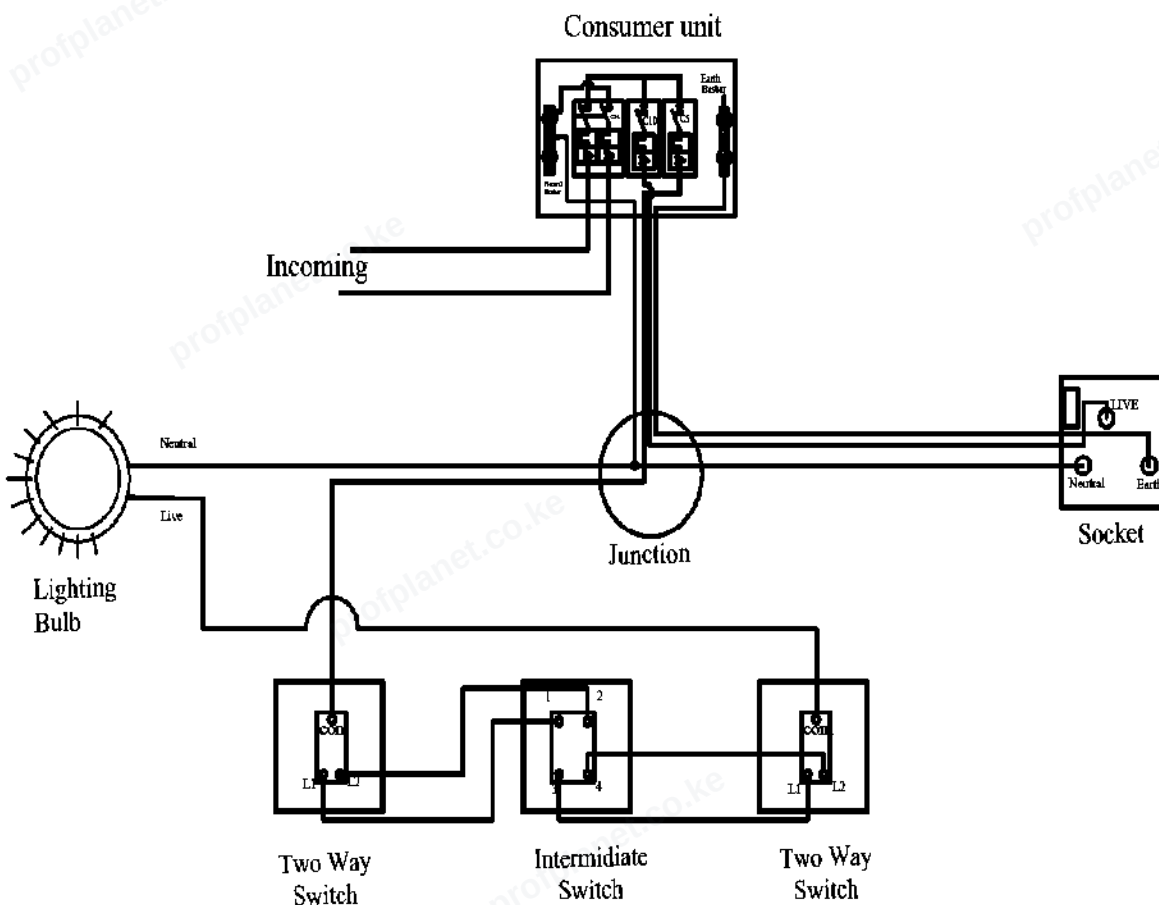

Figure 1
1. Figure 1 shows an electrical wiring diagram. You are required to perform the following tasks: